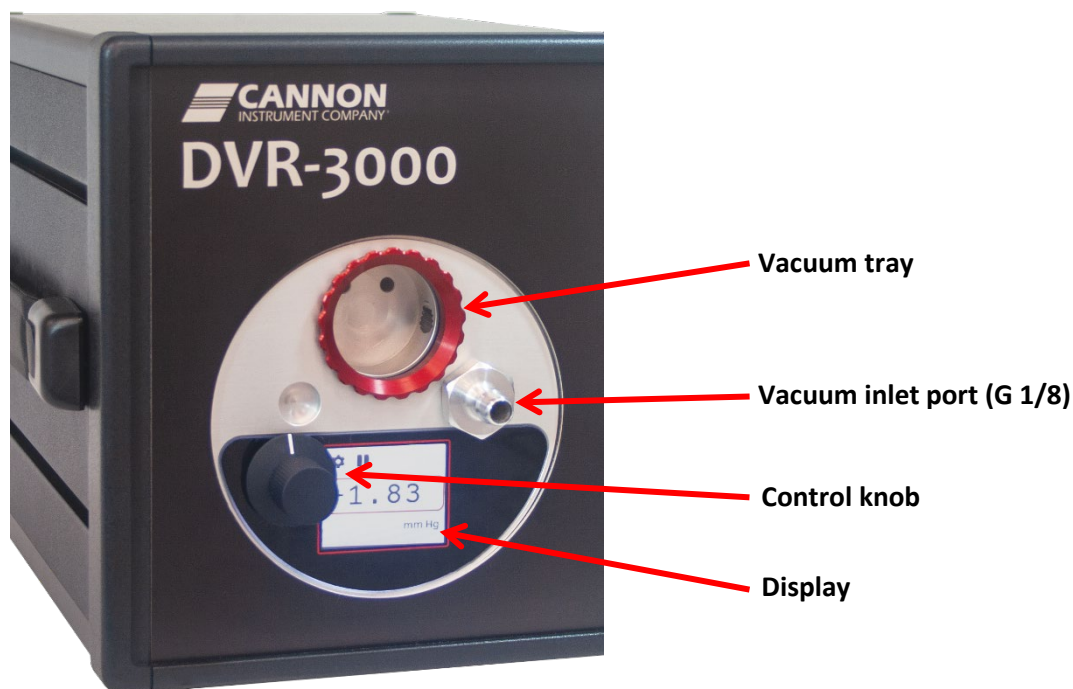

Figure 2: DVR Front Panel Connections
1. Connect the DVR-3000 to your vacuum manifold or application using the 4' (122 cm) length rubber vacuum tubing provided by CANNON. Secure the tubing to the Vacuum Manifold Inlet on the front panel of the DVR. Refer to **Figure 2**.
The DVR unit offers user adjustable options. Use the control knob (see Figure 2) to move the cursor around the screen. The control knob can be rotated left and right. The red highlighting box will move over the options for the instrument. Then press the control knob, to select option.